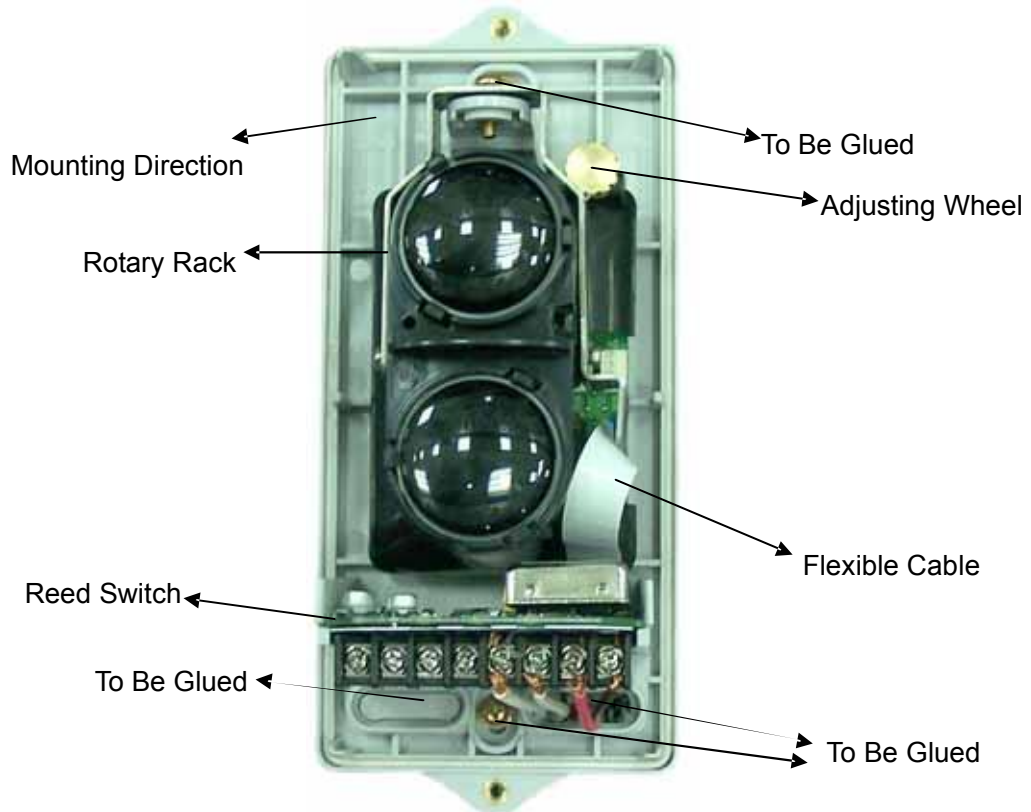

Fig. 2 Internal Devices and Positions to Be Glued
(2) Internal devices of the detector and positions to be glued are shown in Fig. 2.
Note: If the detector is mounted in special environment where there are slight dust or where it's damp, seal the four positions shown in Fig. 2 (two mounting holes and two wire-in holes) with glass glue or 703 silica gel after the detector is fixed and wiring is finished to ensure the detector work stably.